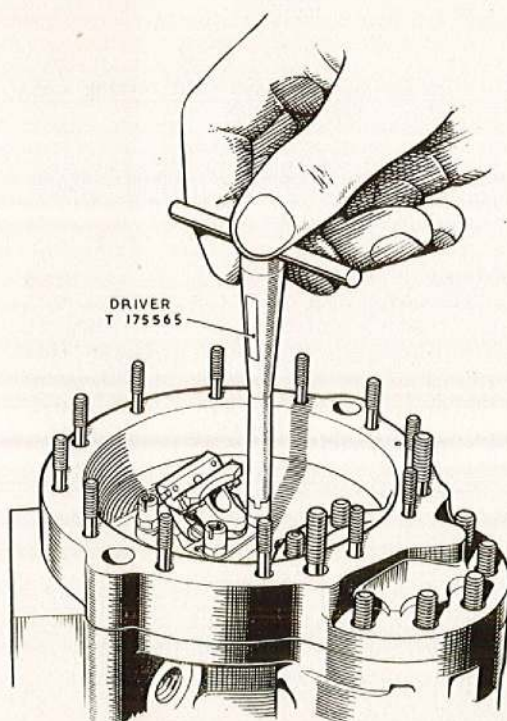
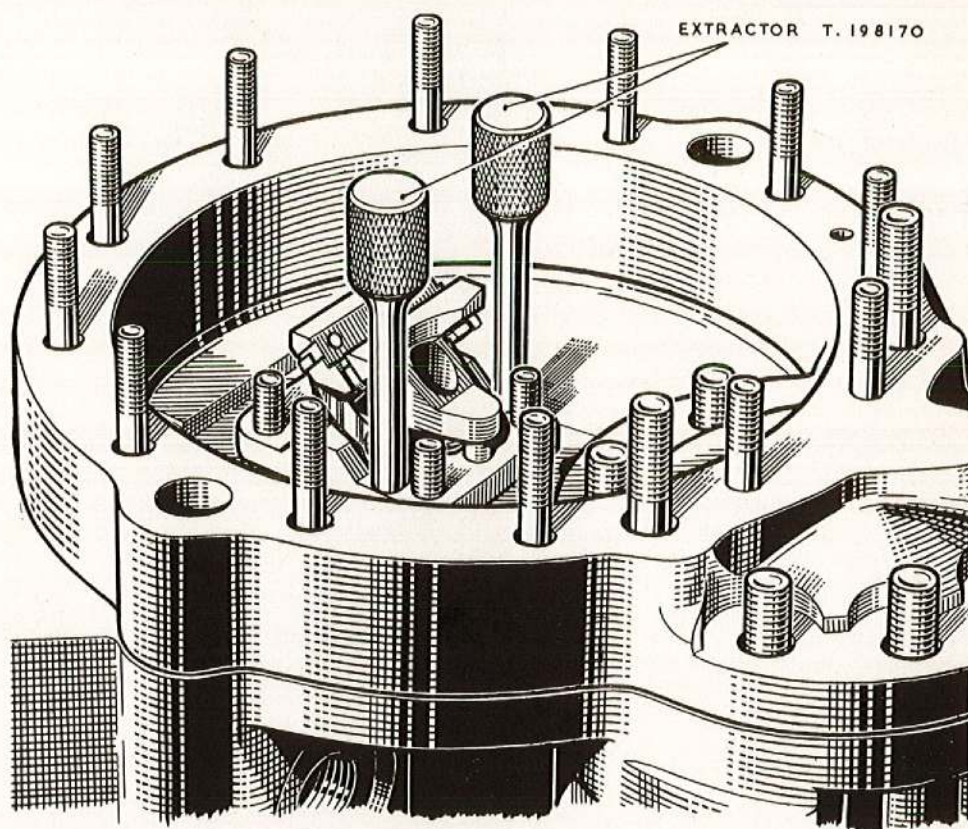

Fig. 9. Removing the amplifier valve reach nuts
Fig. 10. Withdrawing the amplifier valve
34. Unlock the nuts which secure the amplifier valve base plate to the pump housing and, using the special tool T.175565 as shown in fig. 9, remove the four reach nuts. Screw in the two extractors T.198170 (fig. 10) and lift the assembly out of the pump body. The assembly may feel slightly tight at first due to the rubber sealing ring on the orifice strainer housing but a steady pull on the extractors will release the seal.